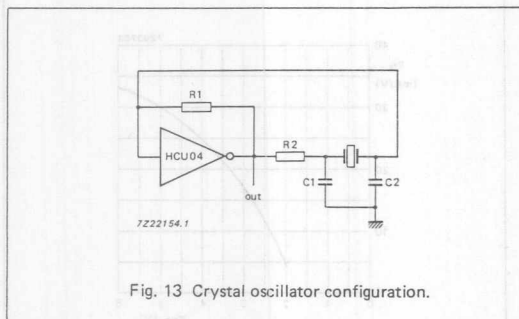

Fig. 13 Crystal oscillator configuration.
- In crystal oscillator designs (see Fig. 13)
Note to Fig. 13
- Inverter-oscillator design (see Fig. 13)